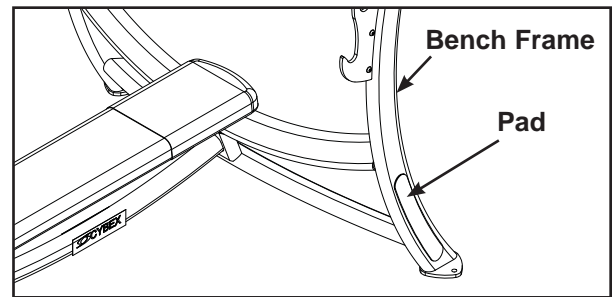

Figure 2
- A. Remove hardware package (C), (D), (F) and rubber feet (E) secured to weight storage frame.
- B. Carefully remove pad from bench frame. See Figure 2.